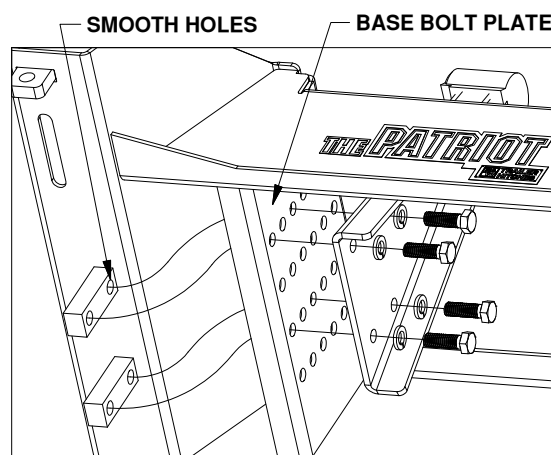

Figure A4: View under the base.
3. **Secure arms.** Retrieve both pivot arms, the four threaded blocks, eight 1/2" cap screws, and eight 1/2" lock washers. Place the lock washers over the cap screws. Align the flat side of the pivot arm against the bolt plate and install four 1/2" cap screws through the holes on the arm, holding the arm in place, as shown in Figure A4. Locate the threaded blocks. Note that the sides of the block have threaded holes on one side and smooth bored holes on the other side. When installing the threaded blocks, it is critical that the side with the smooth holes is flat against the bolt plate. Pass the threaded block under the base's side, align the block with each set of screws, and then start each screw. After all the screws are started through the arms, tighten and torque each bolt to 110 ft-lbs.